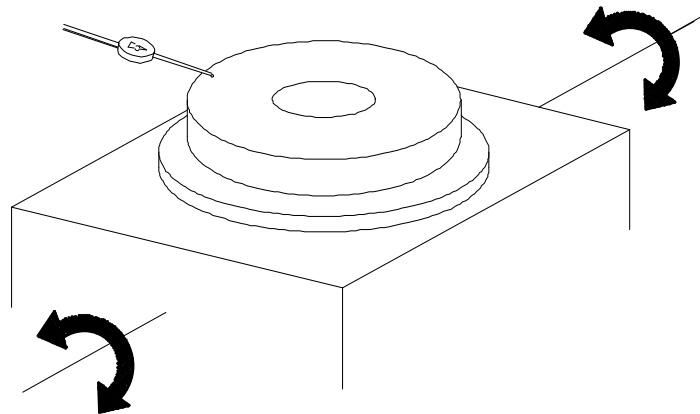

Fig.4
**10-1-2. Backlash measuring method of tilting axis worm gear (See Fig.4)**